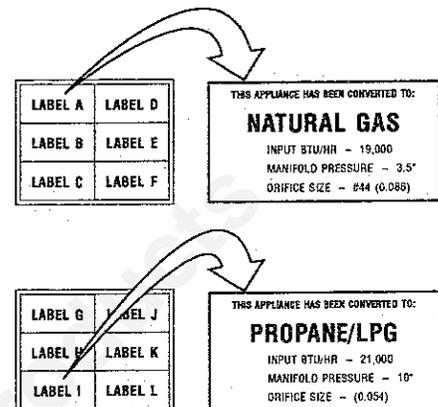

Figure 37
**Step 9.** Attach conversion kit label to the rating plate on the appliance; Label F for units converted to natural gas or Label L for units converted to propane (Figure 37).